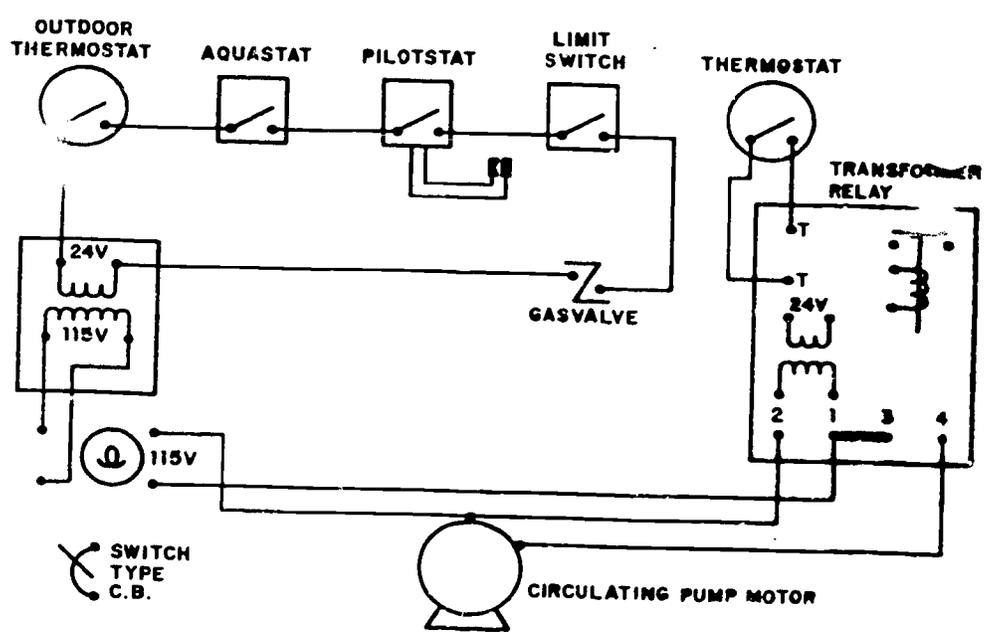

Figure 3. Hot Water Boiler Control Circuit
2. Wire the hot water boiler control circuit using figure 3 as a guide.